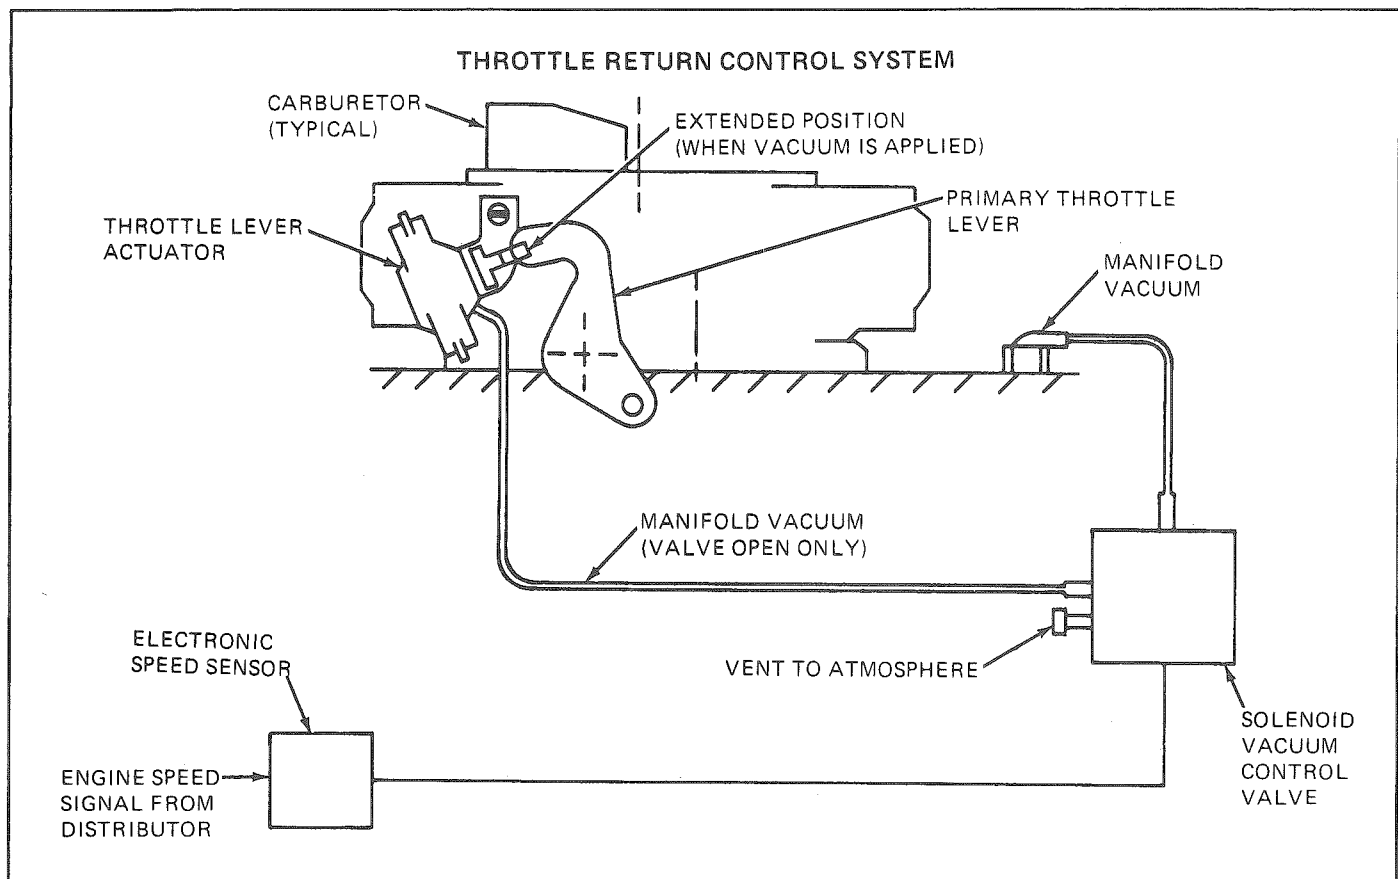

Figure 62 – Throttle Return Control System
**GENERAL DESCRIPTION** –The TRC system used on heavy emission vehicles consists of three major components (see figure 62).
2. Remove the front wheels (see figure 62).